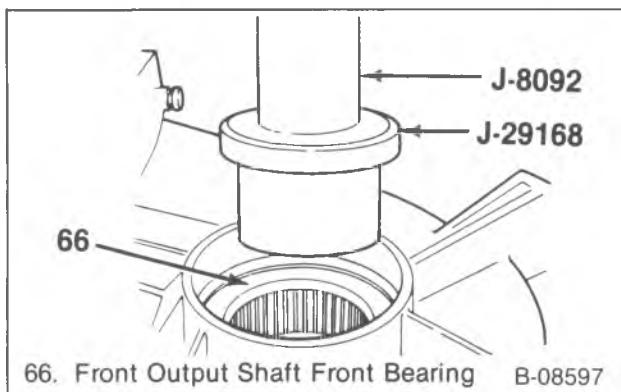

Figure 4—Front Output Shaft Front Bearing Removal
Remove or Disconnect (Figures 4 through 7)
1. Mainshaft rear bearing (8) from mainshaft extension (9). Use a brass drift and mallet.
2. Rear seal (12). Use a brass drift.
3. Front output shaft front bearing (66) using J 8092 and J 29168 (figure 4).